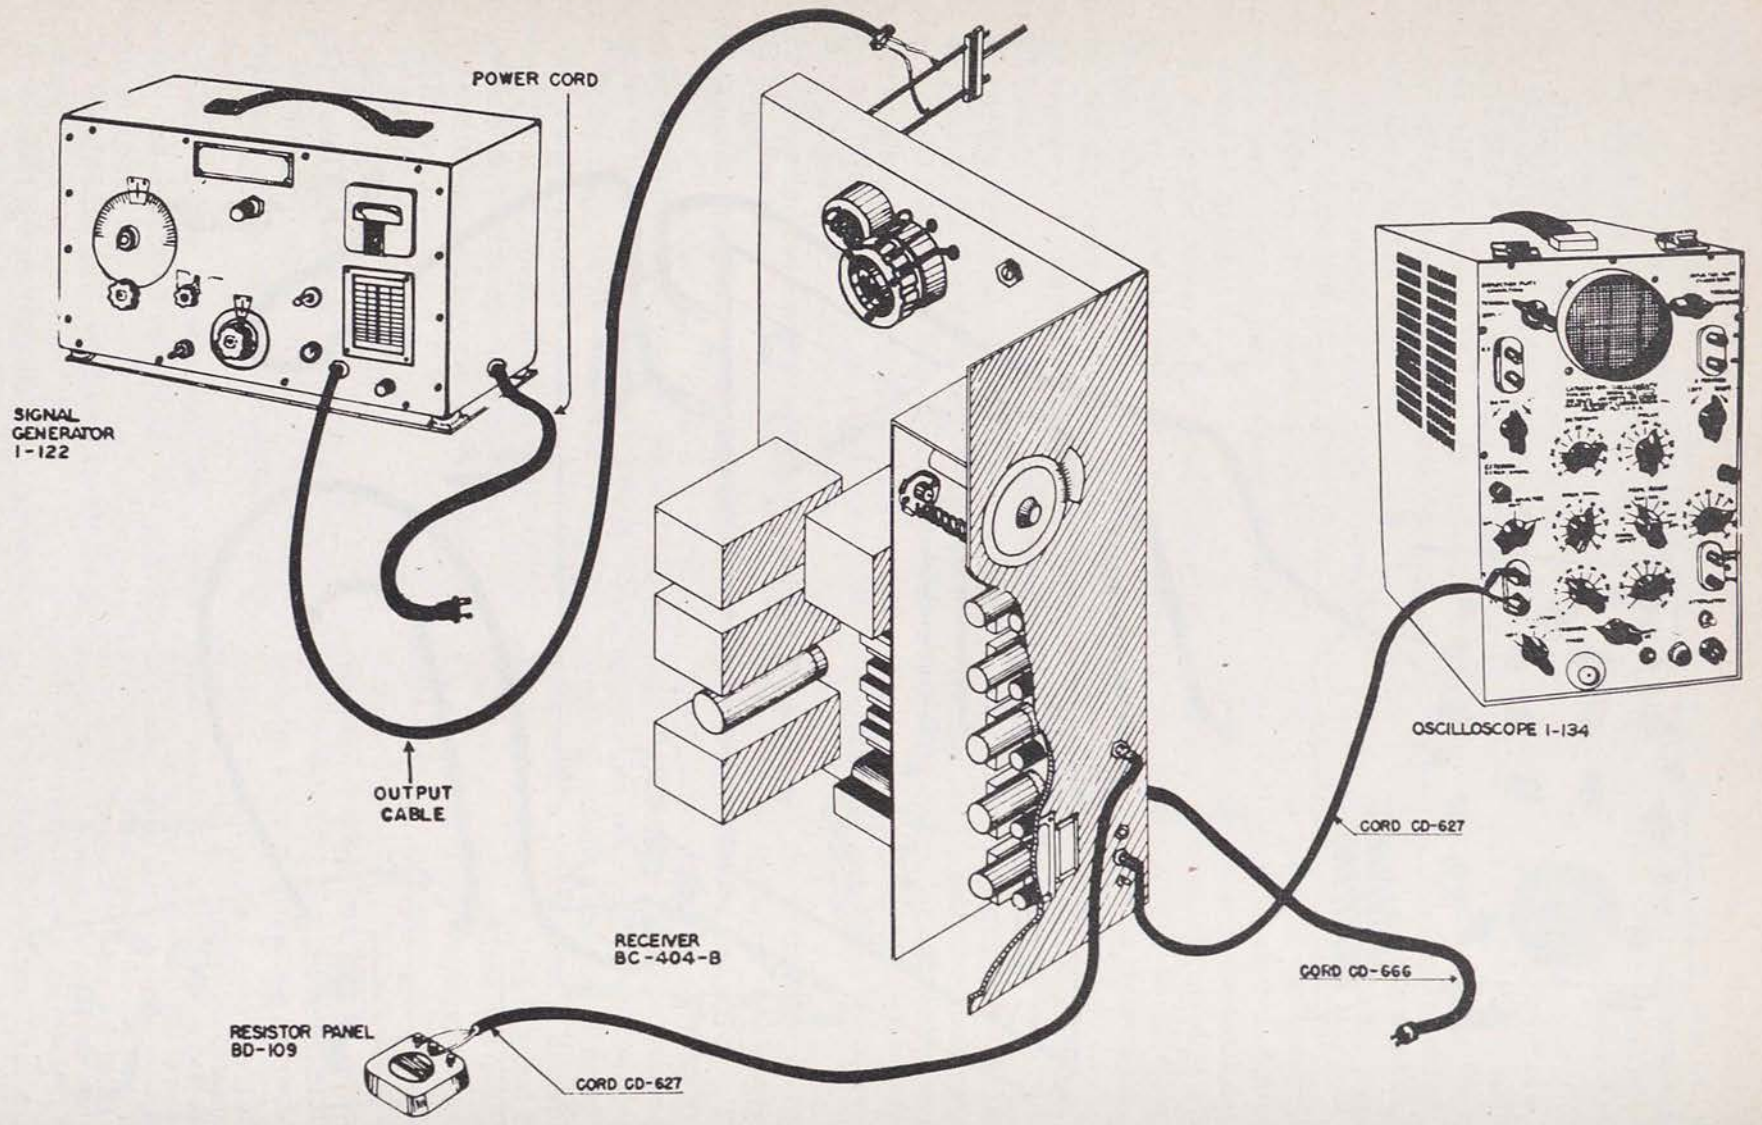

Figure 78. Receiver BC-404-B, alignment of r-f stages.
(1) Install a trombone on the input terminals of the receiver. Replace the oscillator tube.
(2) Connect the signal-generator output lead and ground lead to arbitrary positions on the trombone as shown in figure 78.
(3) Set the frequency control dial on the signal generator to the transmitter frequency which should be approximately 106 megacycles. Set the receiver oscillator dial to 50.
(4) Apply power to all units and allow them to come up to normal operating temperature.
(5) Adjust the signal-generator attenuator control so that a clear sine wave of approximately 1 inch appears on the oscilloscope screen.
(6) Move the shorting bar and the signal-generator output leads along the trombone until a peak deflection appears on the oscilloscope. It may be necessary to retard the signal-generator attenuator control to maintain the 1-inch deflection on the oscilloscope.